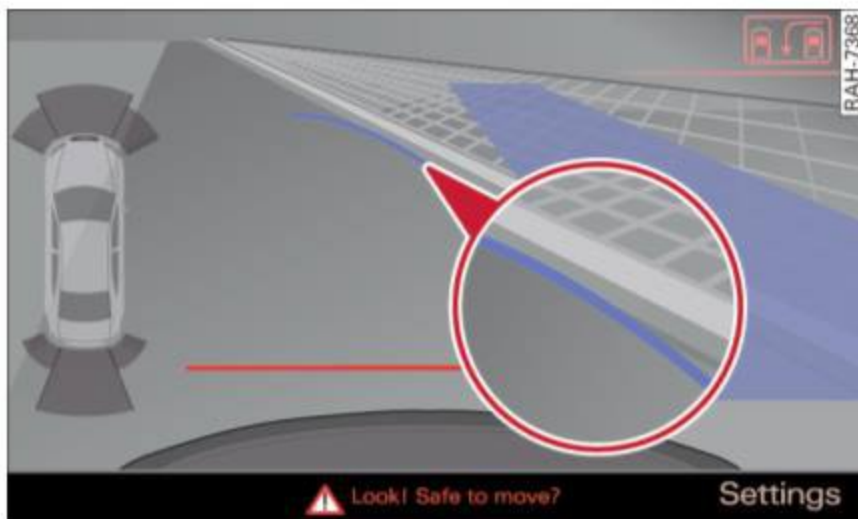

Fig. 117 MMI Display: Blue curve on the curb
- ▶ Back into the parking spot. Stop the vehicle as soon as the blue curve touches the curb ⇒ *fig. 117*.
- ▶ Continue to back up into the parking spot until the vehicle is parked parallel to the curb. ③ marks the rear bumper. You should stop driving in reverse as soon as and no later than when the red orientation line ④ abuts an object ⇒ ⚠! Keep an eye on the front of your vehicle while doing this ⇒ ⚠!
When there is an obstacle (such as a wall) next to the parking spot, choose a spot with more space on the sides. Position the long side of the blue area so that there is sufficient space from the curb. The area must not be on the curb. You will also need to start turning the steering wheel much earlier. There should be a sufficient amount of space between the curb and the blue curve, and the blue curve ⇒ *fig. 117* must **not** touch the curb.